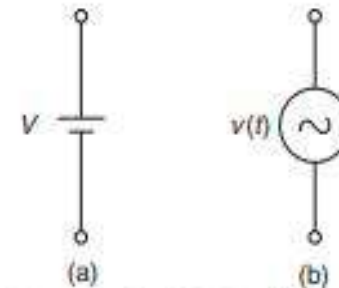

Fig. 1.1 Symbols for independent voltage source
**1. Independent Voltage Source** An independent voltage source is a two-terminal network element that establishes a specified voltage across its terminals. The value of this voltage at any instant is independent of the value or direction of the current that flows through it. The symbols for such voltage sources are shown in Fig. 1.1.